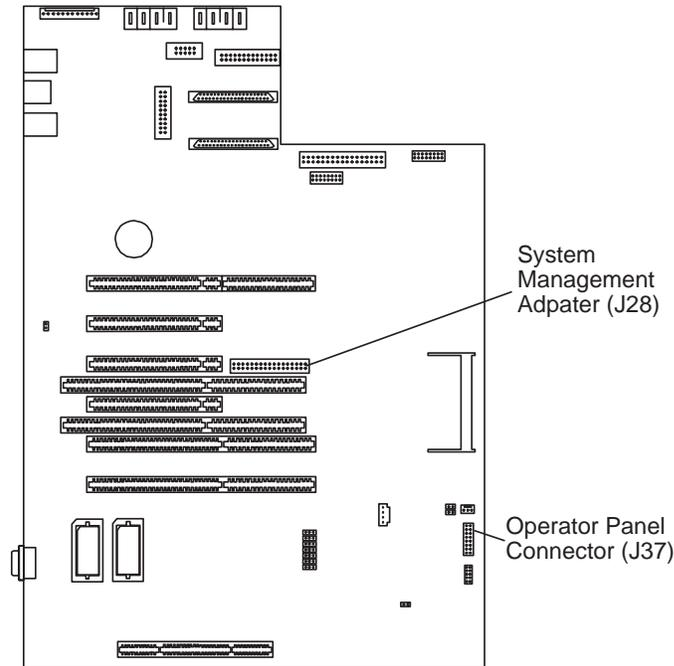

Figure 81. Server 330 System Board
For this section, we have tested the Advanced Systems Management Adapter installation using a Server 330 model 8640-PB0. For Server 325 and other Server 330 models, the location of connectors may vary. (see Figure 81 on page 110)
- Connectors on the system planar (see Figure 81):